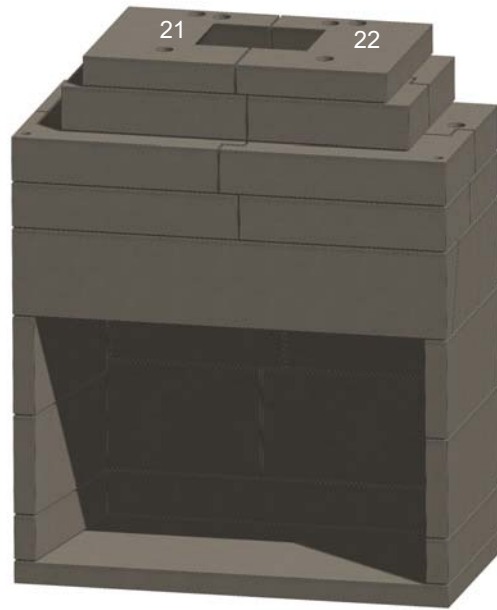

Figure 17. Throat Cap
L. Install the throat cap pieces, items 21 and 22. See Figure 17.